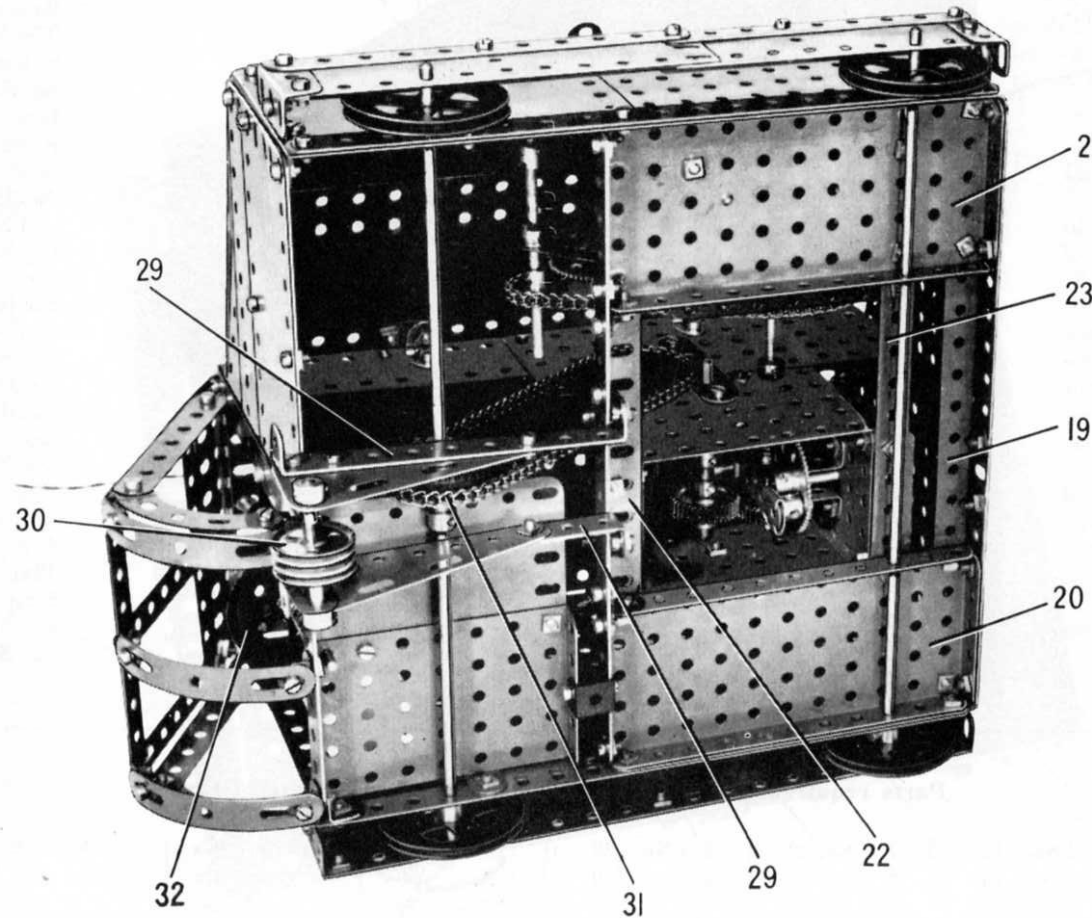
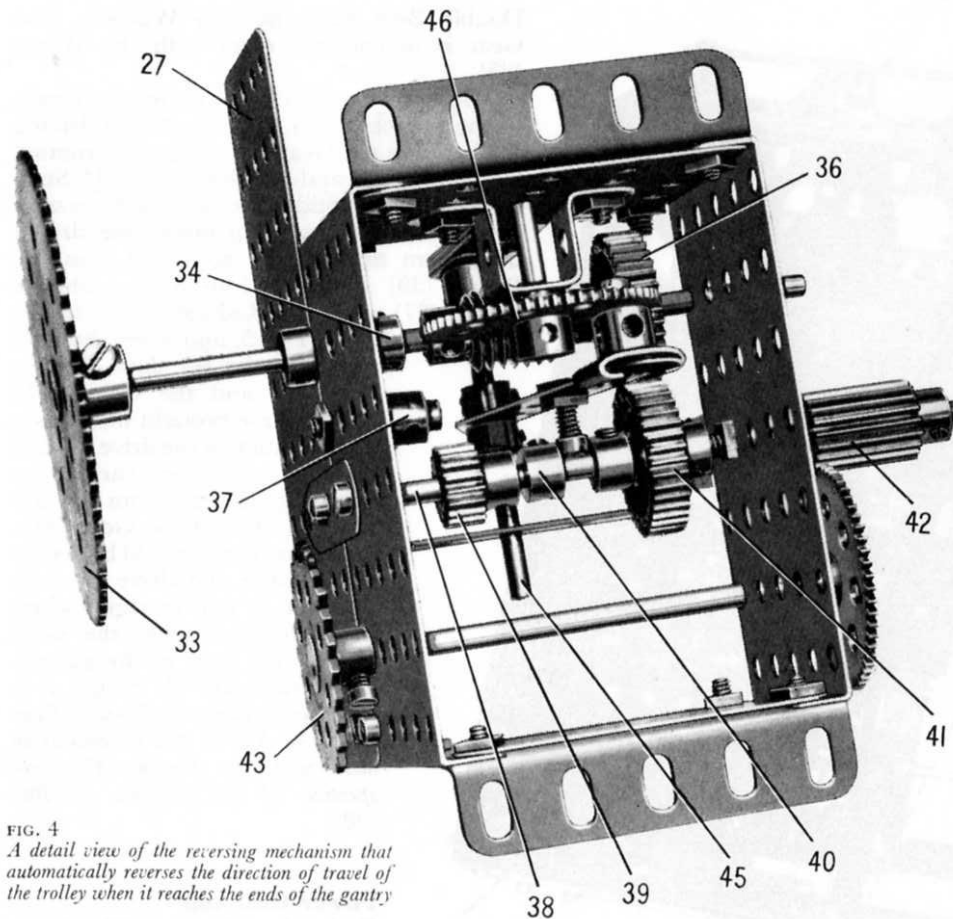
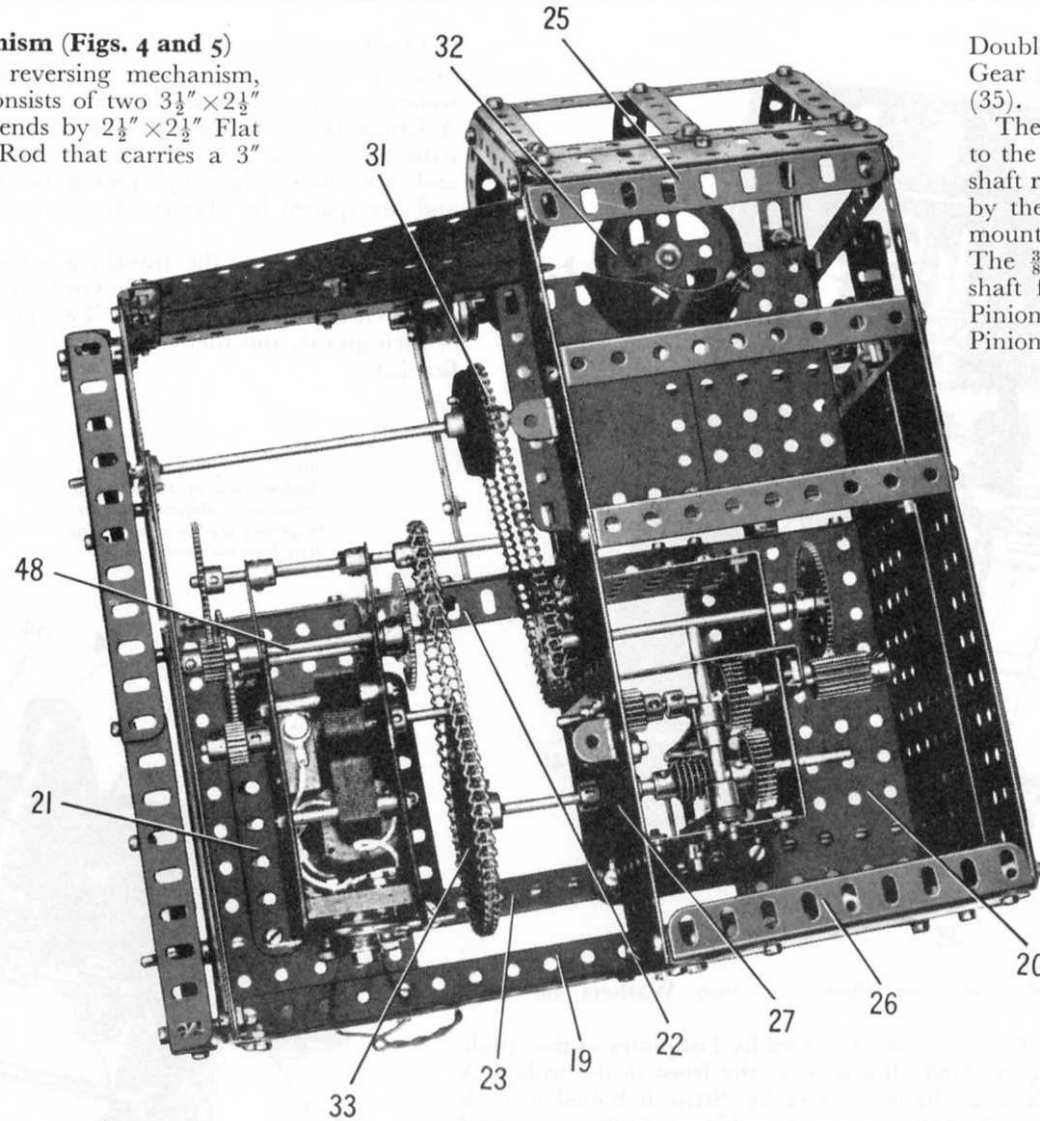
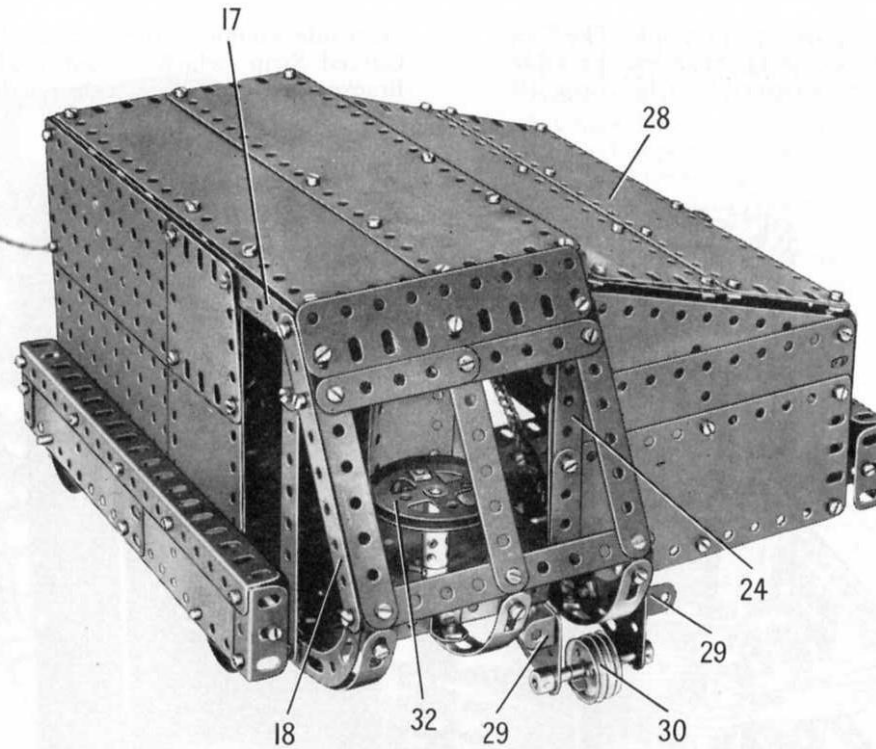

FIG. 3 The trolley seen from underneath, revealing the axle mountings and the friction drive fitted to the front axle
FIG. 4
FIG. 6
FIG. 7
### Details of the Trolley (Figs. 3, 6 and 7)
The side seen in Fig. 7 is made by bolting a  $5\frac{1}{2}$ "  $\times$   $3\frac{1}{2}$ " Flat Plate, a  $5\frac{1}{2}$ "  $\times$   $2\frac{1}{2}$ " Flat Plate, a  $3\frac{1}{2}$ "  $\times$   $2\frac{1}{2}$ " Flexible Plate and a  $2\frac{1}{2}$ "  $\times$   $2\frac{1}{2}$ " Flexible Plate to a  $9\frac{1}{2}$ " Strip that forms the lower edge of the side. The rear edges of the Flat Plates are strengthened by a  $5\frac{1}{2}$ " Angle Girder, and a  $5\frac{1}{2}$ " Strip is bolted inside the front edges of the Flexible Plates. A  $7\frac{1}{2}$ "
Two  $5\frac{1}{2}$ "  $\times$   $2\frac{1}{2}$ " Flanged Plates (20) and (21) are fixed to the Angle Girder (19) and to the sides of the carriage, and are connected at their inner ends by a  $9\frac{1}{2}$ " Strip that supports a  $4\frac{1}{2}$ " Angle Girder (22) (Fig. 3). A  $5\frac{1}{2}$ " Strip (23) is bolted across the Flanged Plates.
The front of the trolley is partly filled in by a  $5\frac{1}{2}$ "  $\times$   $2\frac{1}{2}$ " Flexible Plate and two  $5\frac{1}{2}$ "  $\times$   $1\frac{1}{2}$ " Flexible Plates, one of which is bolted at an angle as shown in Fig. 7. The inner edges of these Plates are attached to a built-up strip (24) (Fig. 7) made from a  $3\frac{1}{2}$ " and a  $2\frac{1}{2}$ " Strip, and to this is fixed a  $4\frac{1}{2}$ " Angle Girder (25), which is connected by an Angle Bracket to the Strip (18).
The back of the trolley is filled in by a  $5\frac{1}{2}$ "  $\times$   $3\frac{1}{2}$ " Flat Plate bolted vertically to the rear flange of the Flanged Plate (20) and to the  $5\frac{1}{2}$ " Angle Girder of the side seen in Fig. 1. Another  $5\frac{1}{2}$ "  $\times$   $3\frac{1}{2}$ " Flat Plate is bolted horizontally to the flange of the Flanged Plate (21) and to the  $3\frac{1}{2}$ " Angle Girder of the corresponding side. A vertical  $5\frac{1}{2}$ "  $\times$   $1\frac{1}{2}$ " Flexible Plate is fixed between the two Flat Plates, with another  $5\frac{1}{2}$ "  $\times$   $1\frac{1}{2}$ " Flexible Plate bolted at an angle between the vertical Flexible Plate and the top outer corner of the horizontal  $5\frac{1}{2}$ "  $\times$   $3\frac{1}{2}$ " Flat Plate. A  $4\frac{1}{2}$ " Angle Girder (26) (Fig. 6) is fixed in position.
A  $5\frac{1}{2}$ "  $\times$   $2\frac{1}{2}$ " Flat Plate (27) (Fig. 6) is bolted to a  $2\frac{1}{2}$ " Angle Girder fixed to the back of the trolley, and is extended forward by a  $5\frac{1}{2}$ "  $\times$   $1\frac{1}{2}$ " Flexible Plate connected to the strip (24) (Fig. 7) by an Angle Bracket. Two  $4\frac{1}{2}$ "  $\times$   $\frac{1}{2}$ " Double Angle Strips are bolted between this assembly and the side of the trolley. The fixed section of the roof consists of two  $9\frac{1}{2}$ "  $\times$   $2\frac{1}{2}$ " Strip Plates and these are bolted to the Double Angle Strips and to the Angle Girders (25) and (26).
Two  $4\frac{1}{2}" \times \frac{1}{2}"$  Double Angle Strips (29) (Fig. 3) are attached by Fishplates to the Angle Girder (22), and are connected by Corner Angle Brackets to the front of the trolley. A  $3\frac{1}{2}" \times 1\frac{1}{2}"$  Triangular Flexible Plate, edged at the front by a  $1\frac{1}{2}"$  Strip, is bolted to each Double Angle Strip, and these support a 2" Rod that carries three 1" loose Pulleys indicated at (30) (Figs. 3 and 7).
The wheels on which the trolley is mounted are 2" Pulleys fixed on  $11\frac{1}{8}"$  Rods. A  $1\frac{1}{2}"$  Sprocket (31) (Fig. 3) is loose on the front Rod, but is pressed against a 1" Pulley (fitted with a Motor Tyre) by a Compression Spring placed between the Sprocket and a Collar. The 1" Pulley is fixed on the Rod, and this arrangement provides a friction drive that slips when the trolley reaches the stops at each end of the gantry, and continues to slip until the automatic mechanism reverses the direction of the drive and sends the trolley on its return journey.
### The Automatic Reversing Mechanism (Figs. 4 and 5)
The mechanism housing is attached to the Girder (22) and the Strip (23) (Fig. 3) by  $2\frac{1}{2}"$  Angle Girders, and one side of the housing is connected to the Flat Plate (27) (Fig. 6) by a  $2\frac{1}{2}"$  Strip. At one end of the housing four  $2\frac{1}{2}"$  Strips (44) (Fig. 5) are bolted face-to-face, and a  $2\frac{1}{2}"$  Rod (45) is fixed in a Crank attached to these Strips. The other end of this Rod is supported in a  $2\frac{1}{2}" \times \frac{1}{2}"$  Double Angle Strip located as shown. A  $3\frac{1}{2}"$  Strip is pivoted on Rod (45) between two Collars, and a  $\frac{3}{8}"$  Bolt held in the Strip by two nuts engages between the Collar (40) and a second Collar. The lower end of the Strip passes through a Slide Piece (Fig. 4), which is fixed on a  $\frac{3}{8}"$  Bolt pivoted in a hole in a 57-tooth Gear (46). The Gear (46) is fixed on a  $1\frac{1}{2}"$  Rod, mounted in the end of the housing and in a Double Bent Strip bolted to it. The Rod is held in position by a Collar, and the Gear is spaced from the
The Sprocket (43) is connected by Chain to the Sprocket (31) (Fig. 3). As the driving shaft rotates the Gear (46) (Fig. 4) is rotated by the Worm, and so carries the  $3\frac{1}{2}"$  Strip mounted in the Slide Piece from side to side. The  $\frac{3}{8}"$  Bolt in the Strip moves the driven shaft from side to side also, and thus the Pinion (39) is moved into mesh with the Pinion (37) when the Rod (38) slides to the right, Fig. 5, and when the Rod moves to the left these Pinions disengage and the Gears (41) and (36) are brought into mesh. The duration of the drive in each direction can be varied by adjusting the positions of the Pinion (39) and the Gear (41). The adjustment should be arranged so that the drive in each direction is still engaged when the carriage reaches the stops (47) at the ends of the gantry. These stops are  $1\frac{1}{2}"$  Strips. It is important to adjust the 57-tooth Gear on the 4" Rod so that it remains in mesh with the Pinion (42) irrespective of the position of Rod (38).
### Power Unit and Reduction Gearing (Fig. 6)
A length of Cord is tied at one end to the girder (14) and is taken over one of the Pulleys (30) on the trolley (Fig. 7) and round one of the Pulleys (49). Then the Cord is passed round the centre one of the Pulleys (30) and the second Pulley (49), and then taken over the third Pulley (30) and led back along the gantry, where it is tied again to the girder (14). When the trolley is nearest to the points where the Cord is attached to the girder, the pulley block should be at ground level. As the carriage moves along the gantry the pulley block is raised automatically, and then is lowered again when the carriage returns to its starting point.